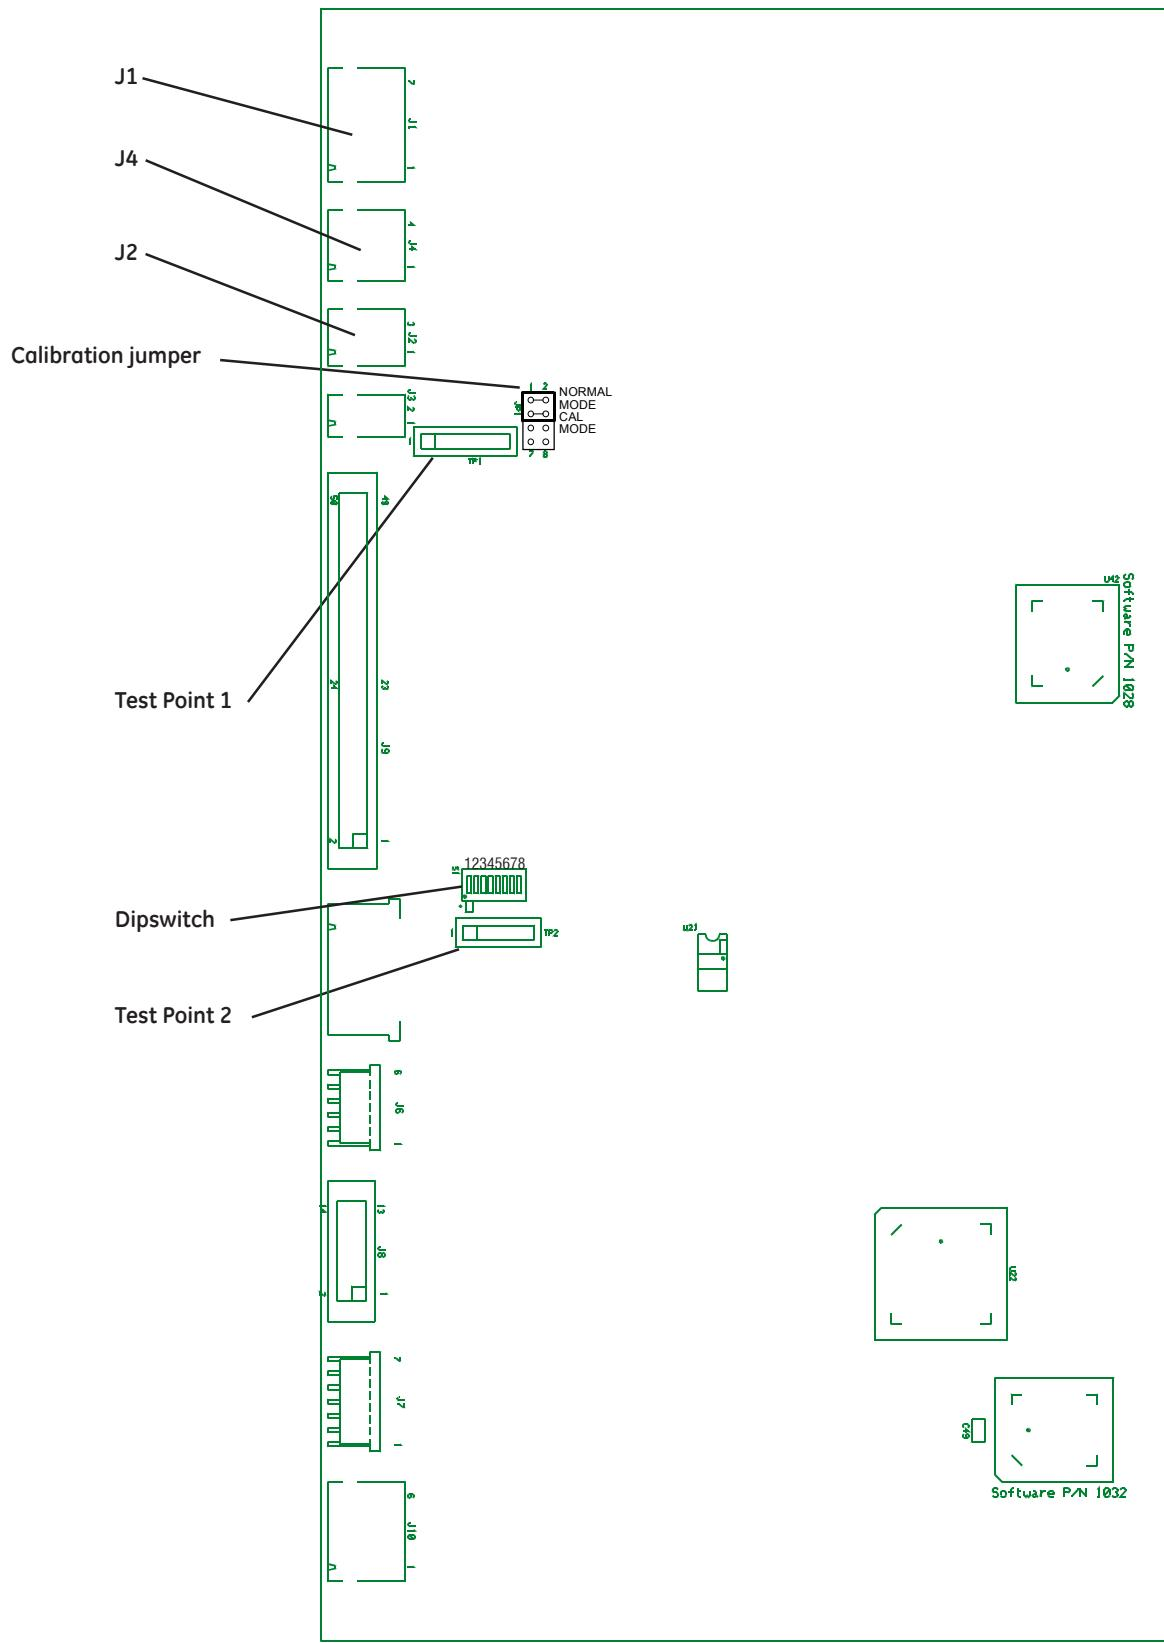

Figure 3-1 Control Board Test Points
4. Move jumper JP1 to the CAL MODE position on the control board (refer to "Figure 3-1 Control Board Test Points"). Be sure to orient the jumper correctly so pins 5-6 and 7-8 are shorted.